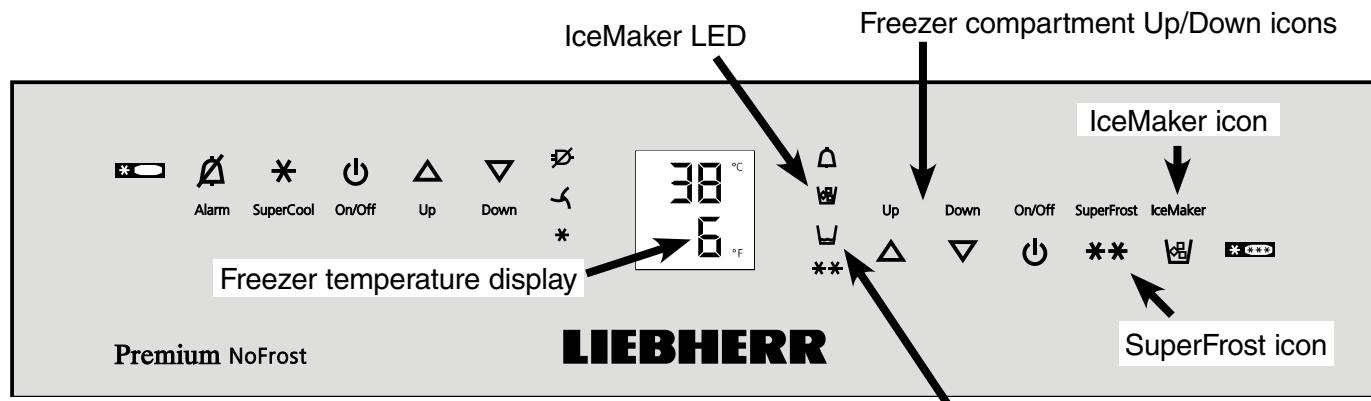

Figure 23
- Touch the **IceMaker icon** so the **IceMaker LED** comes on (**Figure 23**).
Top up water tank LED - **Figure 23**